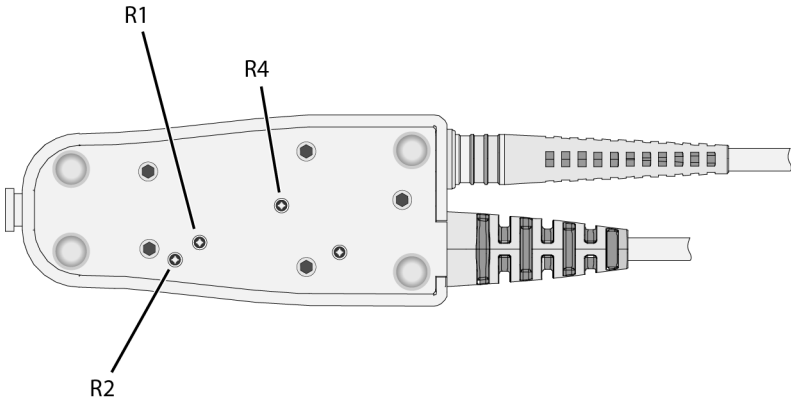

Figure 32 Location of Calibration Adjustments
During this calibration, you may be prompted to make one or more adjustments. These adjustments, located on the underside of the probe amplifier, are shown in Figure 32 on page 67.
- 9 If you are prompted to make an adjustment, refer to Figure 32. The adjustments are located on the underside of the probe amplifier.